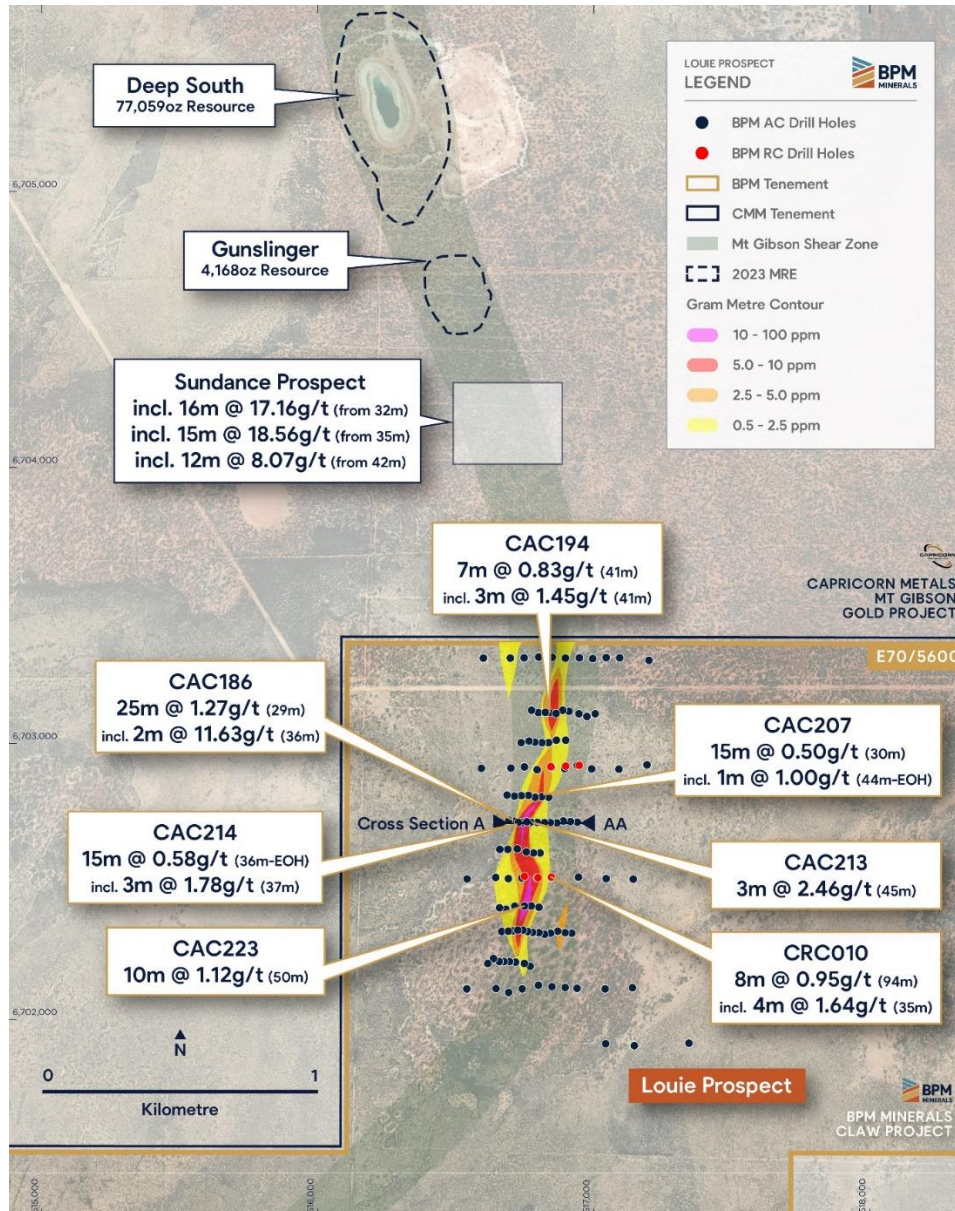

Fig.2 - Louie Prospect - Aircore Drilling Results
- **Louie is located immediately south along strike of Capricorn Metals' (ASX: CMM) 3.24Moz @ 0.8 g/t Mount Gibson Gold Project², giving BPM a prime opportunity within a proven gold corridor (Fig 2).**
The Louie Prospect is located on the northern border of the Claw Project area immediately south along strike of a series of significant gold resources (Sheldon-Deep South-Gunslinger) and the recent high-grade Sundance gold discovery (16m @ 17.16 g/t and 15m @ 18.56 g/t Au^{3.7}) made earlier in 2024. These gold deposits make up the current southern extent of CMM's MGGP (Fig. 2).
These results define a 1,000m long, ~100ppb gold in regolith anomaly (Fig. 2). The latest aircore and RC drilling results have highlighted a higher-grade core to the anomaly ~600m in length, potentially consisting of multiple high-grade shoots.